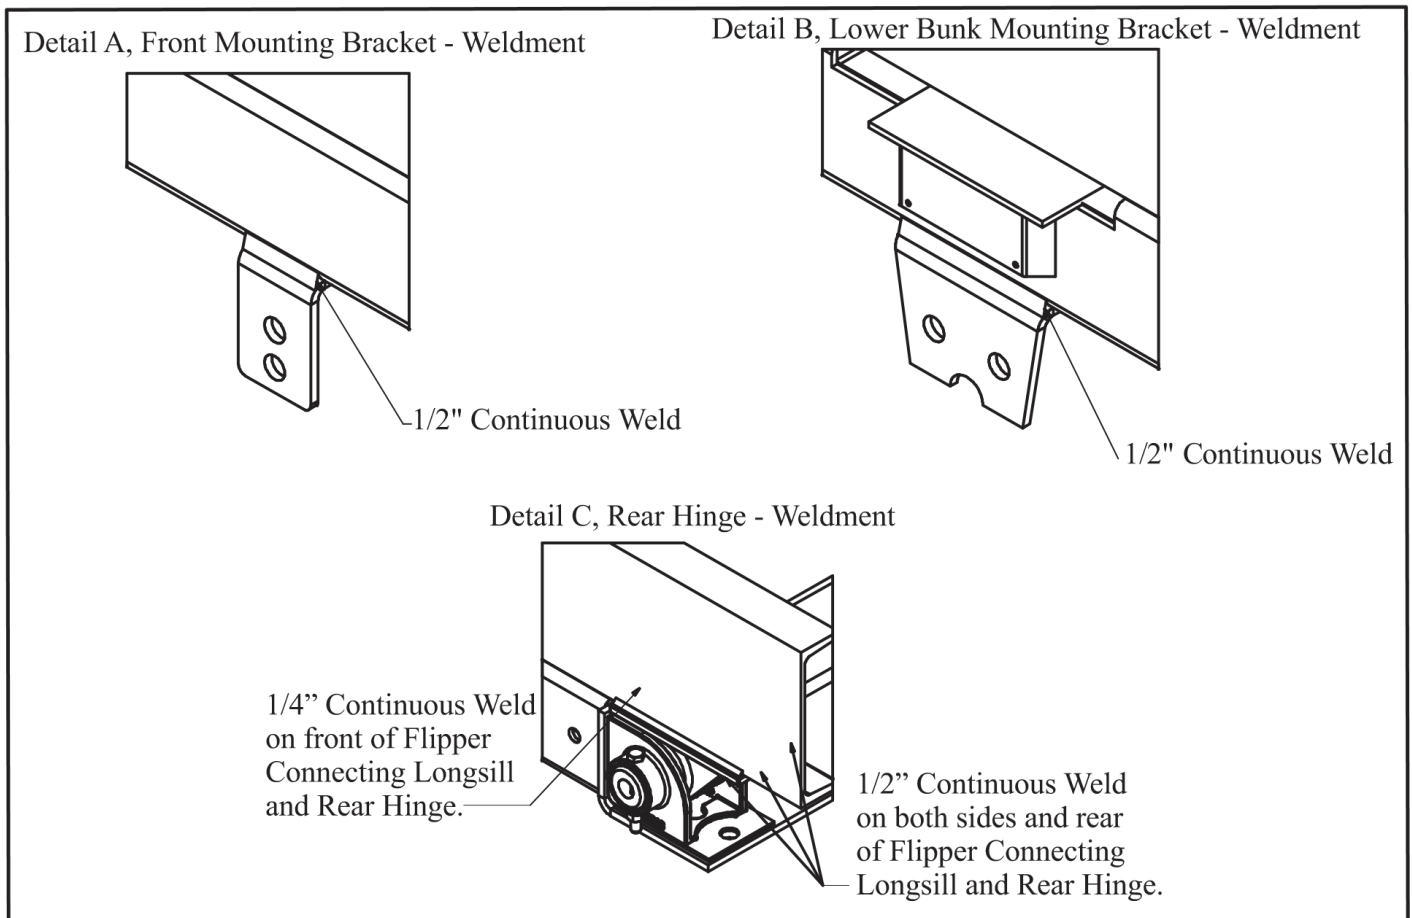

Figure 1: Subframe to Chassis Weldments (Refer to MP50074, page 9)
8. Weld mounting brackets to Subframe with a 1/2" continuous weld, per Figure 1 below.